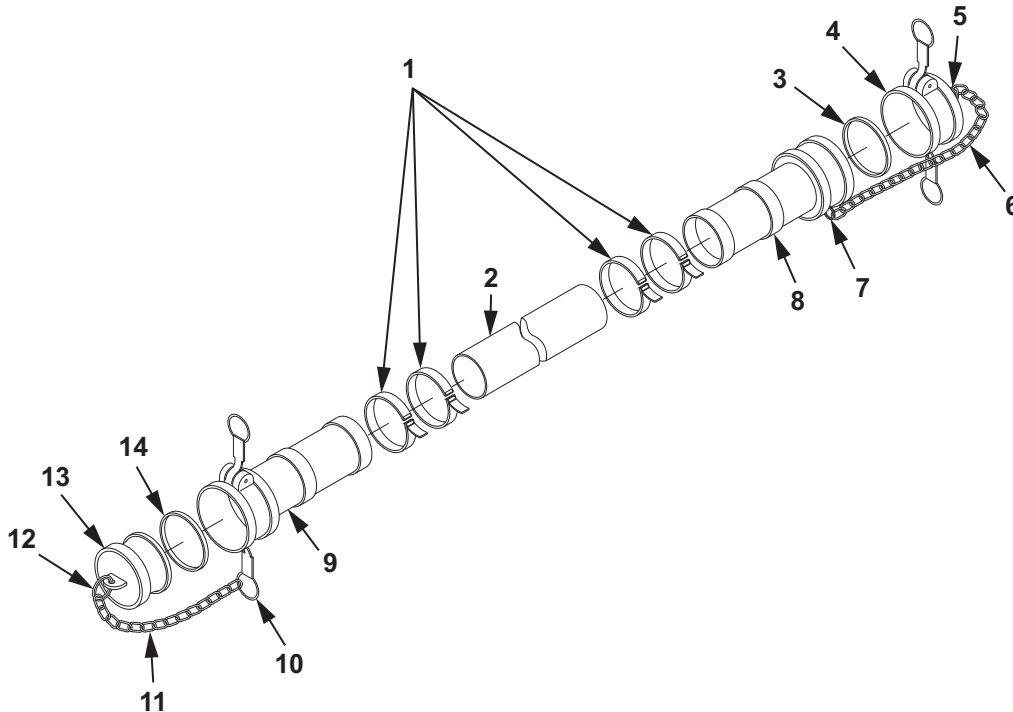

Figure 1. 4 In. Discharge Hose Disassembly.
1. Cut and remove hose clamps (Figure 1, Item 1) from hose assembly (Figure 1, Item 2). Discard hose clamps (Figure 1, Item 1).
2. Remove female coupling half (Figure 1, Item 9) and male coupling half (Figure 1, Item 8) from hose (Figure 1, Item 2).
3. Remove quick disconnect dust plug (Figure 1, Item 13) from female coupling half (Figure 1, Item 9).
4. Remove quick disconnect dust cap (Figure 1, Item 4) from male coupling half (Figure 1, Item 8).
5. Remove gaskets (Figure 1, Item 14, 3) from female coupling half (Figure 1, Item 9) and quick disconnect dust cap (Figure 1, Item 4).
6. Discard gaskets (Figure 1, Item 14, 3).
7. Remove split ring (Figure 1, Item 5) from quick disconnect dust cap (Figure 1, Item 4).
8. Remove split ring (Figure 1, Item 5) from chain (Figure 1, Item 6).
9. Remove split ring (Figure 1, Item 7) from male coupling half (Figure 1, Item 8).
10. Remove split ring (Figure 1, Item 7) from chain (Figure 1, Item 6).
11. Remove split ring (Figure 1, Item 10) from female coupling half (Figure 1, Item 9).
12. Remove split ring (Figure 1, Item 10) from chain (Figure 1, Item 11).
13. Remove split ring (Figure 1, Item 12) from quick disconnect dust plug (Figure 1, Item 13).
14. Remove split ring (Figure 1, Item 12) from chain (Figure 1, Item 11).